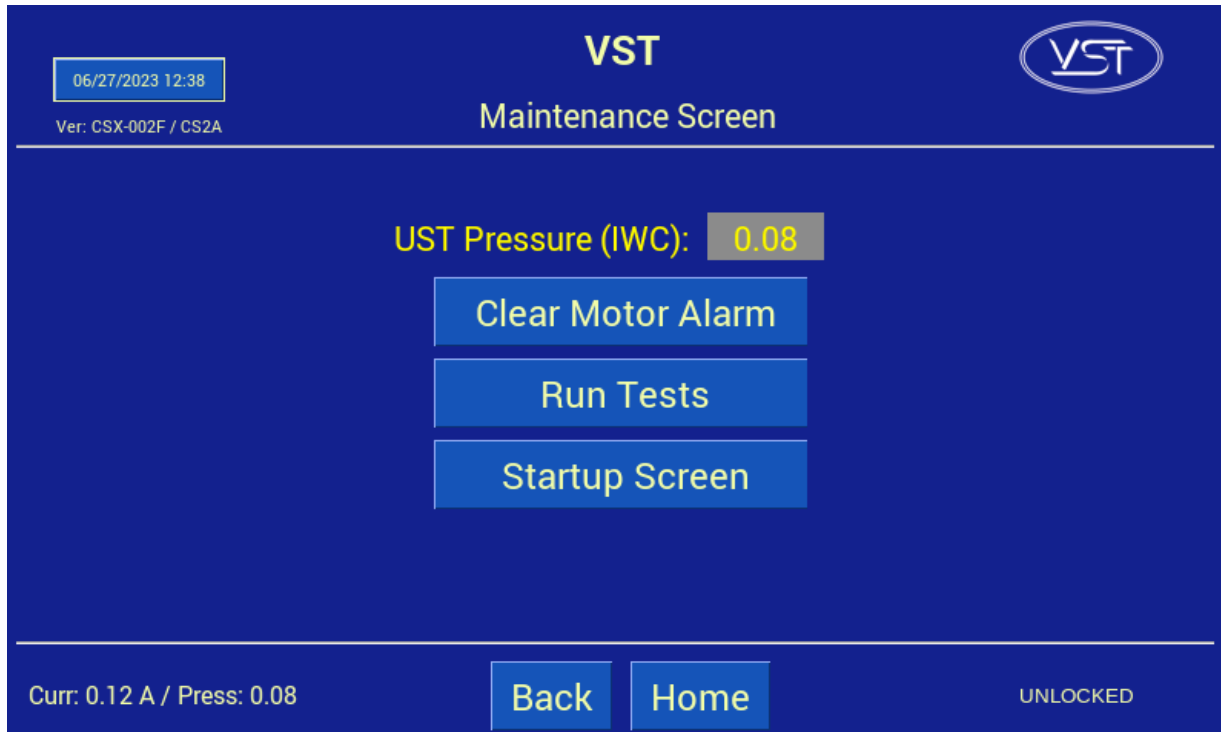

Figure 8-17: Maintenance Screen
1.	<p>Check to see if the Vacuum Pump breaker (BRK1) in the Control Panel has tripped. See Figure 8-21.</p> <ul style="list-style-type: none"> <li>a) Enter the Maintenance screen using the code 878 to disable the GREEN MACHINE.</li> <li>b) Open the Control Panel front door</li> <li>c) Check the breaker BRK1 to see if it tripped: <ul style="list-style-type: none"> <li>● If the breaker lever is up and the window is RED, the breaker has not tripped.</li> <li>● If the breaker lever is down and the window is GREEN, the breaker has tripped.</li> </ul> </li> <li>d) If the breaker has not tripped, go to Step 2.</li> <li>e) If the Vacuum Pump breaker has tripped, move the lever up to reset the breaker.</li> <li>f) Push the Clear Motor Alarm button so the alarm resets. See Figure 8-17.</li> <li>g) Push the Home button to go back to the Main Screen and the alarm will be cleared.</li> <li>h) The GREEN MACHINE is now in a Normal Operating Mode and will operate if the UST pressure is above 0.2 IWC.</li> <li>i) NOTE: IF THE VACUUM PUMP BREAKER CONTINUES TO TRIP, GO TO STEP 2.</li> </ul>
- i) Push the Clear Motor Alarm button so the alarm resets. **See Figure 8-17.**
**See Figures 8-17 and 8-18.** Then press the Leak Test button.